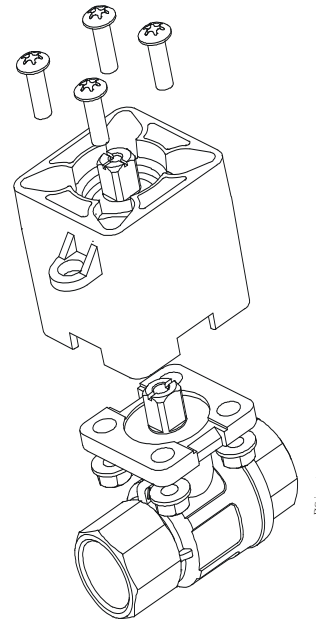

Figure 18: Installing the barrier
3. Mount the thermal barrier onto the valve using the four included M5x16 mm machine screws and four M5 flange nuts. Tighten the screws to a recommended torque of 21 to 25 lb·in. (2.4 to 2.8 N·m). (Figure 18).